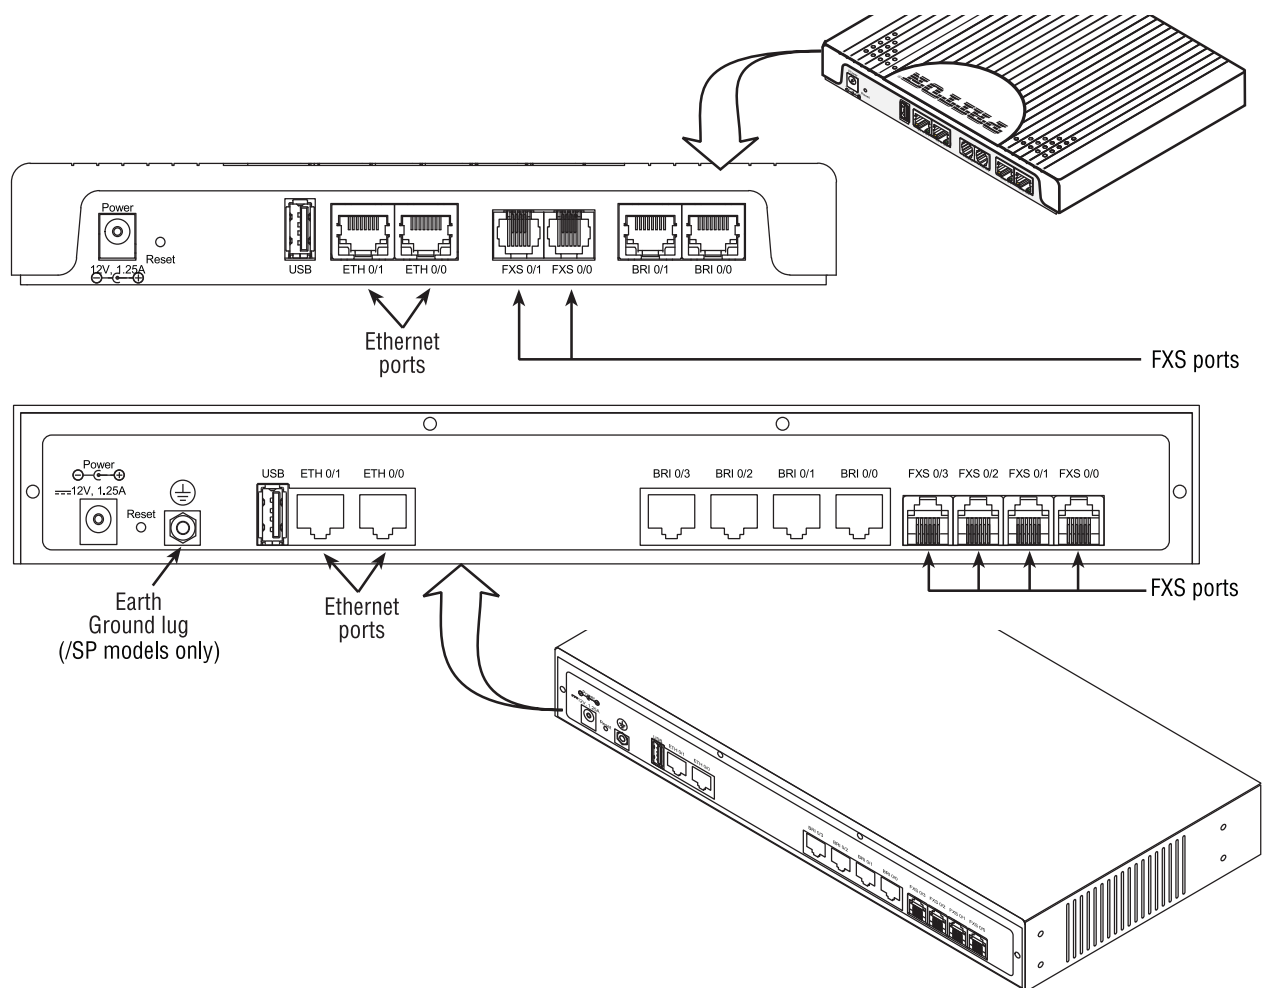
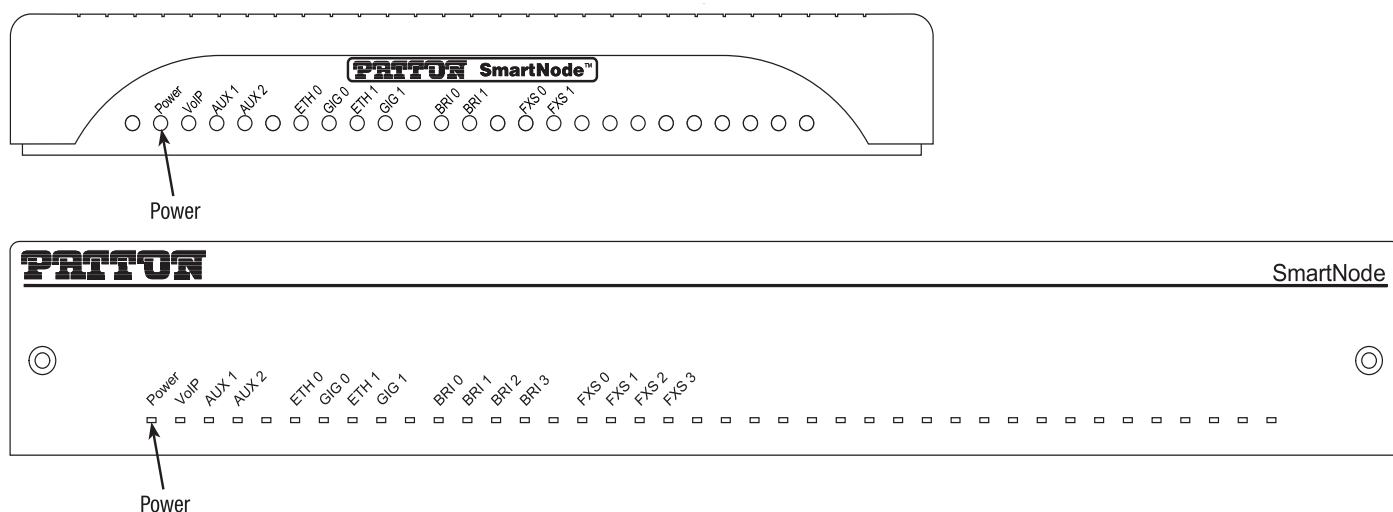

Figure 9. Rear view showing location of Ethernet and FXS connectors, and ground lug (SmartNode 5551 shown)
Figure 10. Power LED
The SmartNode comes with at least two FXS analog ports (see figure 9) located on the back of the device. The FXS interfaces are connected to analog devices via cables (see figure 10 on page 33) terminated with RJ-11 connectors (see section “Analog FXS” on page 55).
3. Verify that the green *Power* LED is lit (see figure 10). It blinks fast during bootloader phase and blinks slow during boot process of Trinity Software. It becomes solid when the system is up and running.